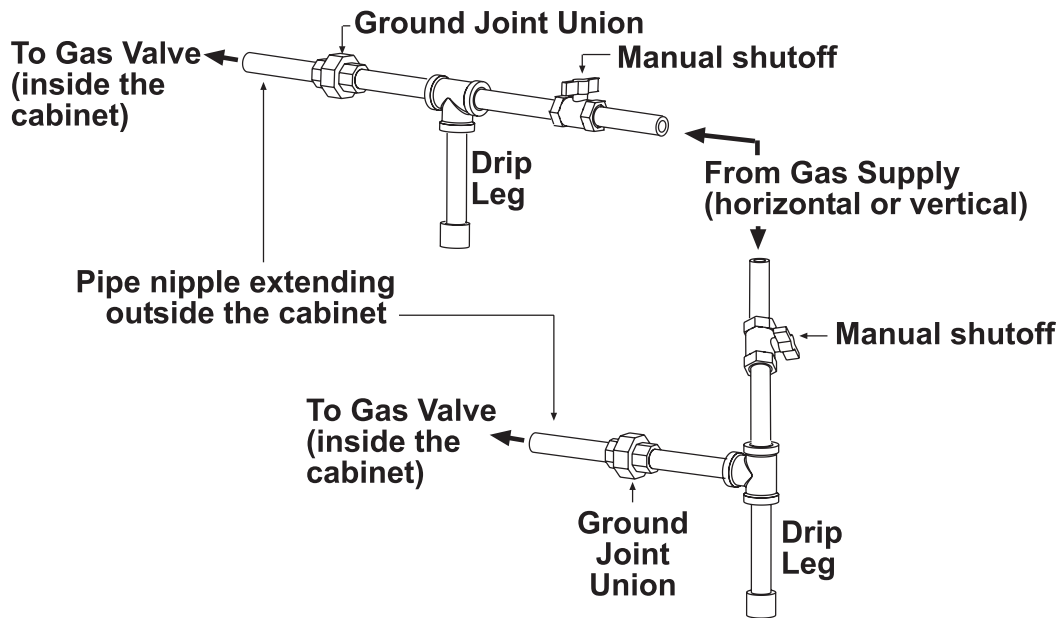

Figure 20. Gas Connections
- Gas connections are shown in Figure 20 and gas connections sizes are listed in Table 13.
- Install a ground joint union and manual shutoff valve upstream of the unit control system. The 1/8-inch plugged tapping in the shutoff valve provides connection for the supply line pressure test gauge. The *National Fuel Gas Code* requires the installation of a trap with a minimum 3-inch drip leg. Local codes may require a longer drip leg, typically 6-inch (see Figure 20).